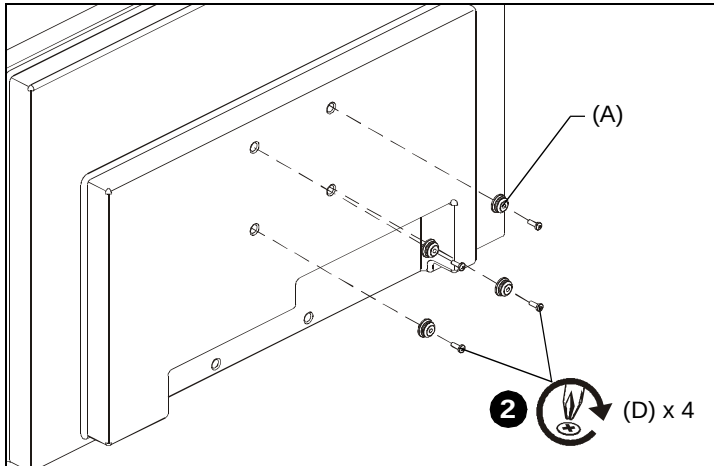

Figure 1
2. Assemble mounting buttons (A) to display using four M4 x 20mm (D) Phillips pan head screws. (See Figure 1)